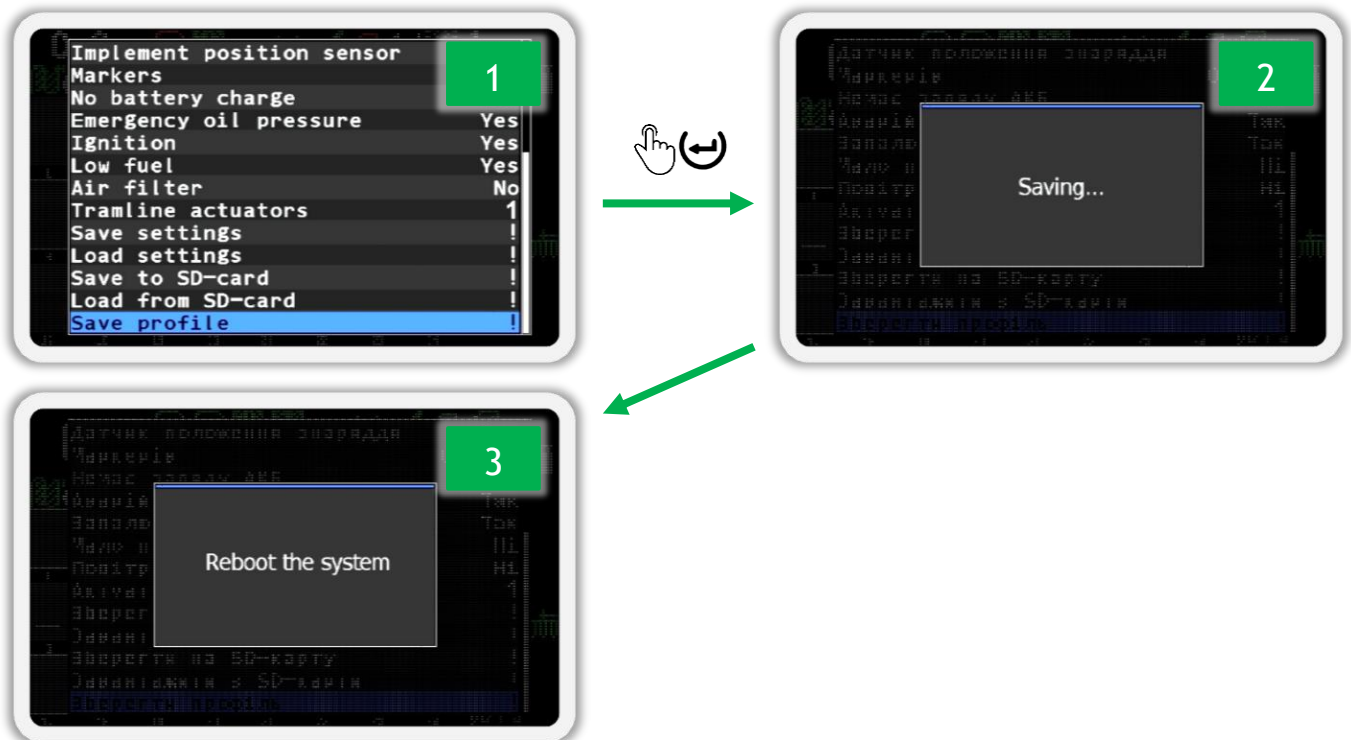

Figure 58
- After you configured the operator panel profile settings according to your system configuration, go to the  “Save profile” menu item (see Figure 58 p.1) and press the  “Menu” button. If everything is configured correctly, as a result you will see the message “Saved” (see Figure 58 p.2), and after a few seconds the next message “Restart system” (see Figure 58 p.3).